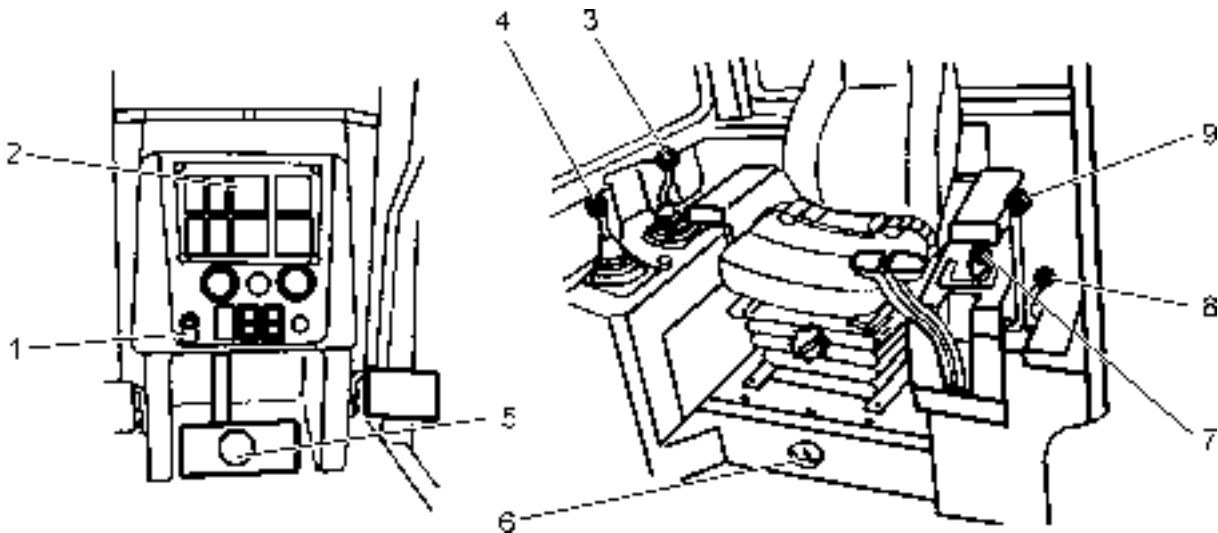

Fig. 4.17. Stopping the Engine
4.7. STOPPING THE ENGINE (Fig. 4.17)
STOPPING THE ENGINE (Fig. 4.17)